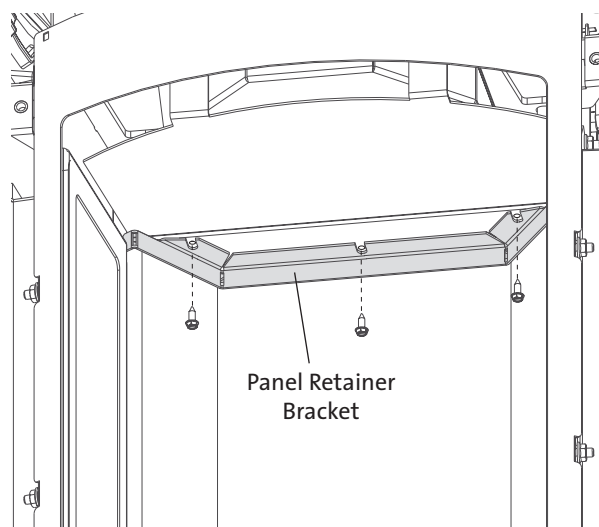

Figure 25. Loosen the panel retainer screws.
- Loosen, but do not remove the three #8 x 12 sheet metal screws that secure the upper panel retainer. Pull the the retainer forward about 1/4 inch. See fig. 25.